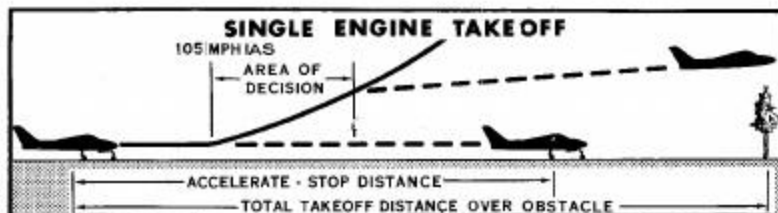

Figure 3-2
Fortunately the aircraft accelerates through this "area of decision" in just a few seconds. However, to make an intelligent decision in this type of an emergency, one must consider the field length, obstruction height, field elevation, air temperature, headwind, and the gross weight. The flight paths illustrated in Figure 3-2 indicate that the "area of decision" is bounded by: (1) the point at which 105 MPH IAS is reached and (2) the point where the obstruction altitude is reached. An engine failure in this area requires an immediate decision. Beyond this area, the aircraft, within the limitations of single-engine climb performance shown in Section VI, may be maneuvered to a landing back at the airport.